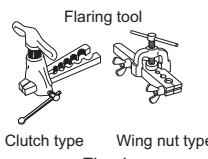

Fig. 4
- Insert the drain hose fully into the drain pan at the rear right of the indoor unit. (Fig. 4)
- Insert the drain hose into wall hole sleeve (C), and hook the upper part of indoor unit on installation plate (1). Then, move the indoor unit completely to the left in order to make placing the piping in the back space of the unit easier.
- Flaring work (Fig. 4, 5). Firmly hold copper pipe in the dimension shown in the table. Select A mm from the table according to the tool you use.